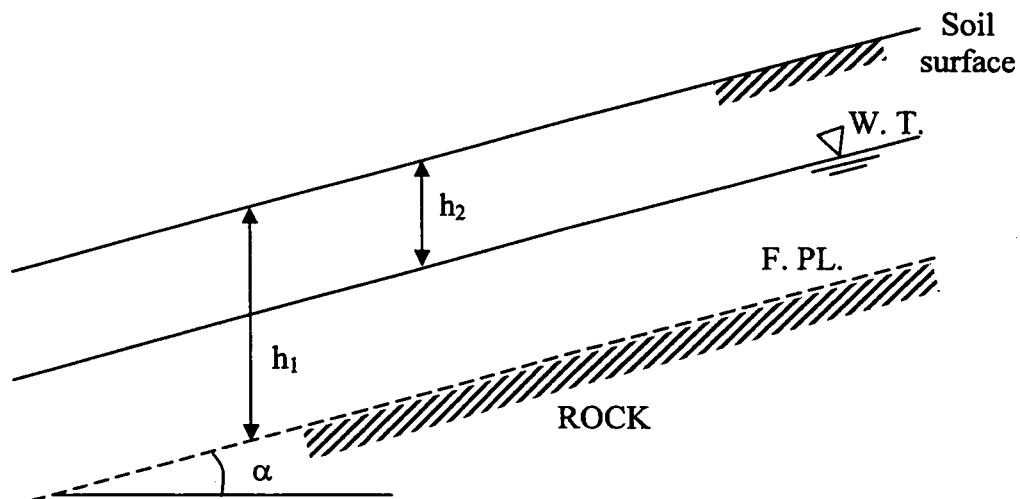

Figure Q4
Figure Q4 shows the cross-section of an infinite slope of soil with thickness h_1 overlying impermeable rock. The slope inclines at an angle α to the horizontal. Water flows parallel to the surface at a depth h_2 below the soil surface. Assuming the angle of friction between the soil and rock and the unit weight of soil are ϕ and γ respectively:
- (a) Calculate the pore water pressure acting on the potential failure plane illustrated in Figure Q4. [5 marks]